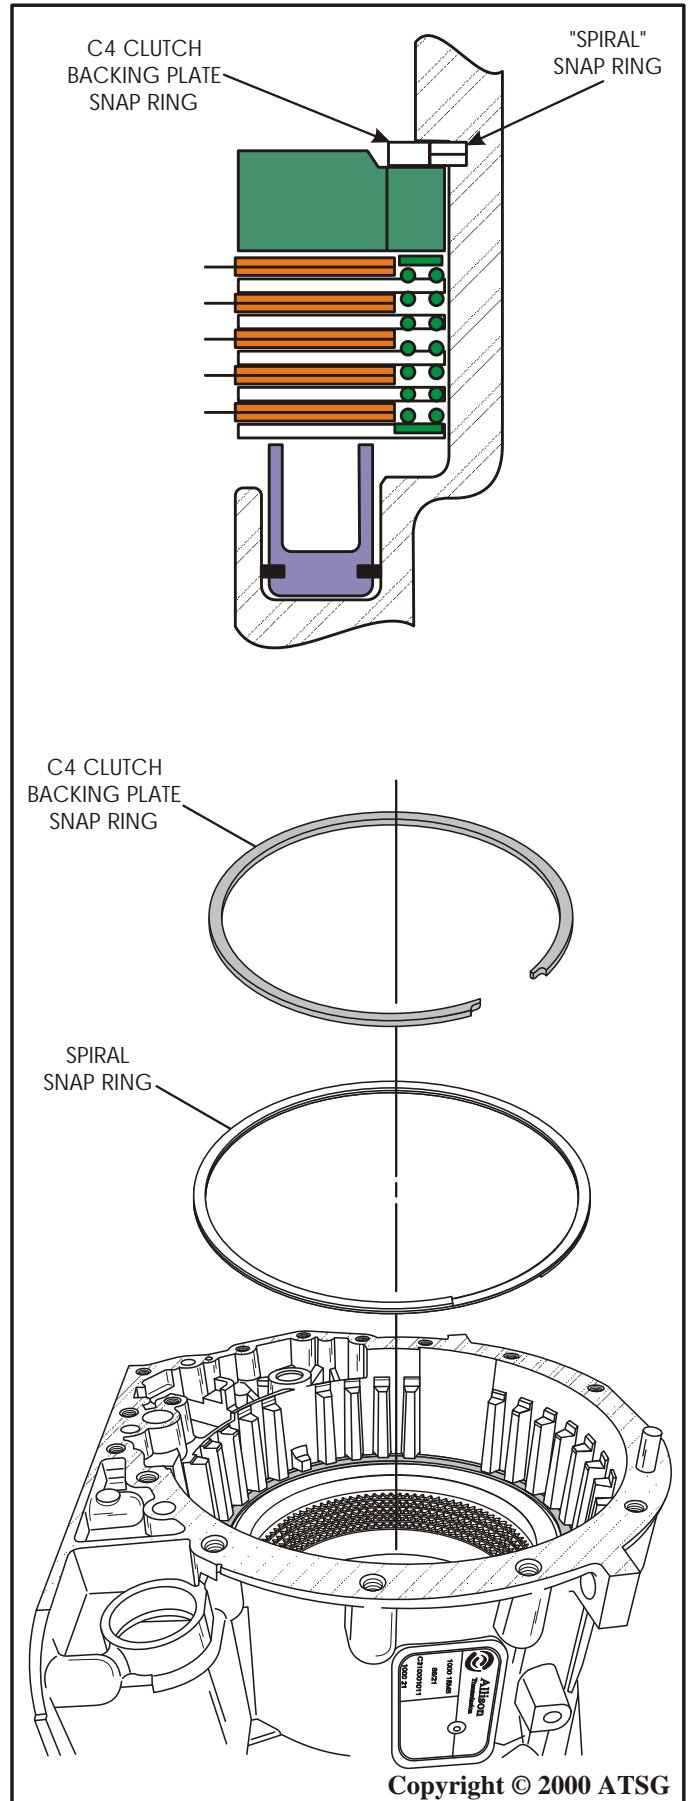

Figure 151
8. Install the "spiral" snap ring into case groove as shown in Figure 151.
9. Install the C4 clutch backing plate snap ring into the *same groove as the spiral snap ring*, as shown in Figure 151.